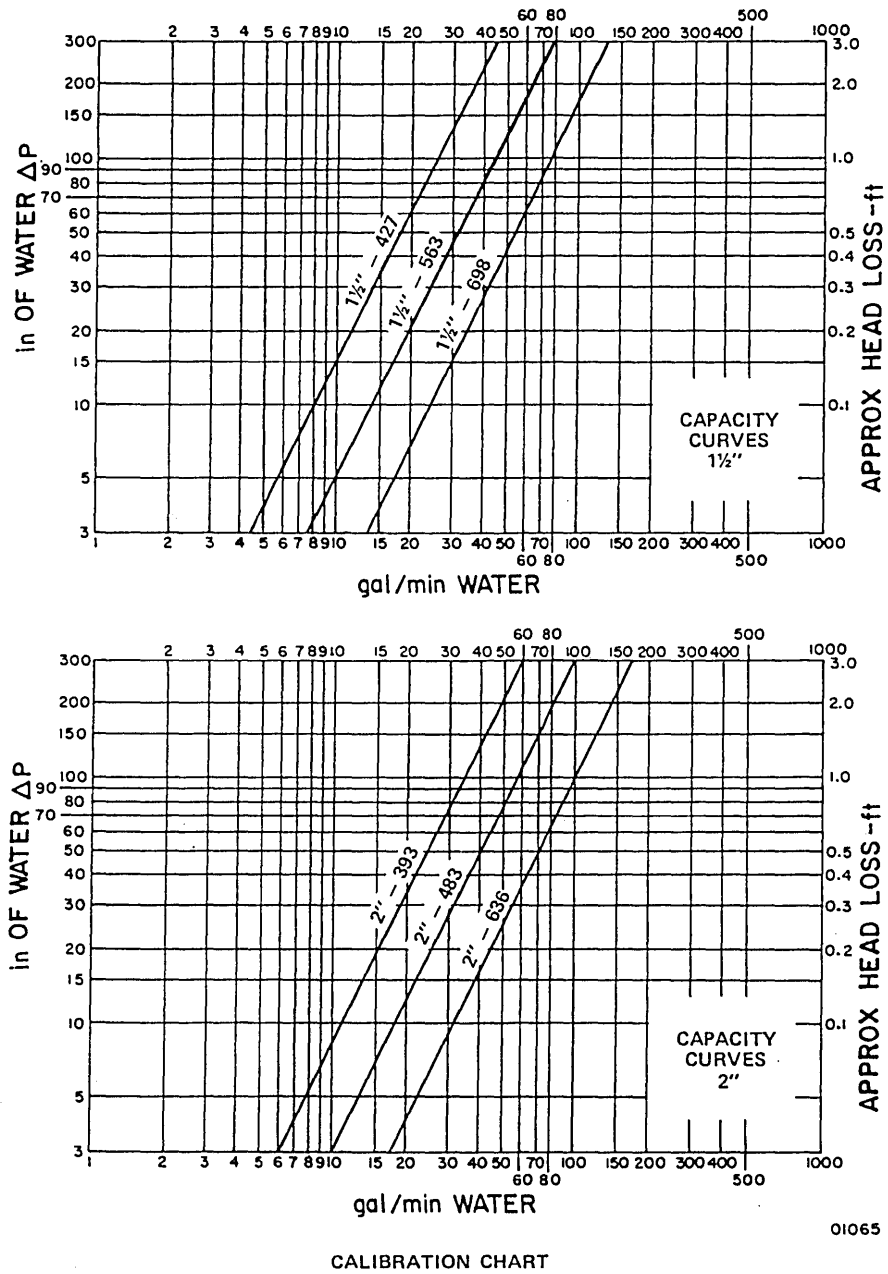

Figure 3-35. Water Flow Calibration Charts
- ___ 4. Use calibration chart (figure 3-35) or chart connected to venturi flow meter to convert inches of water to gal/min as follows: